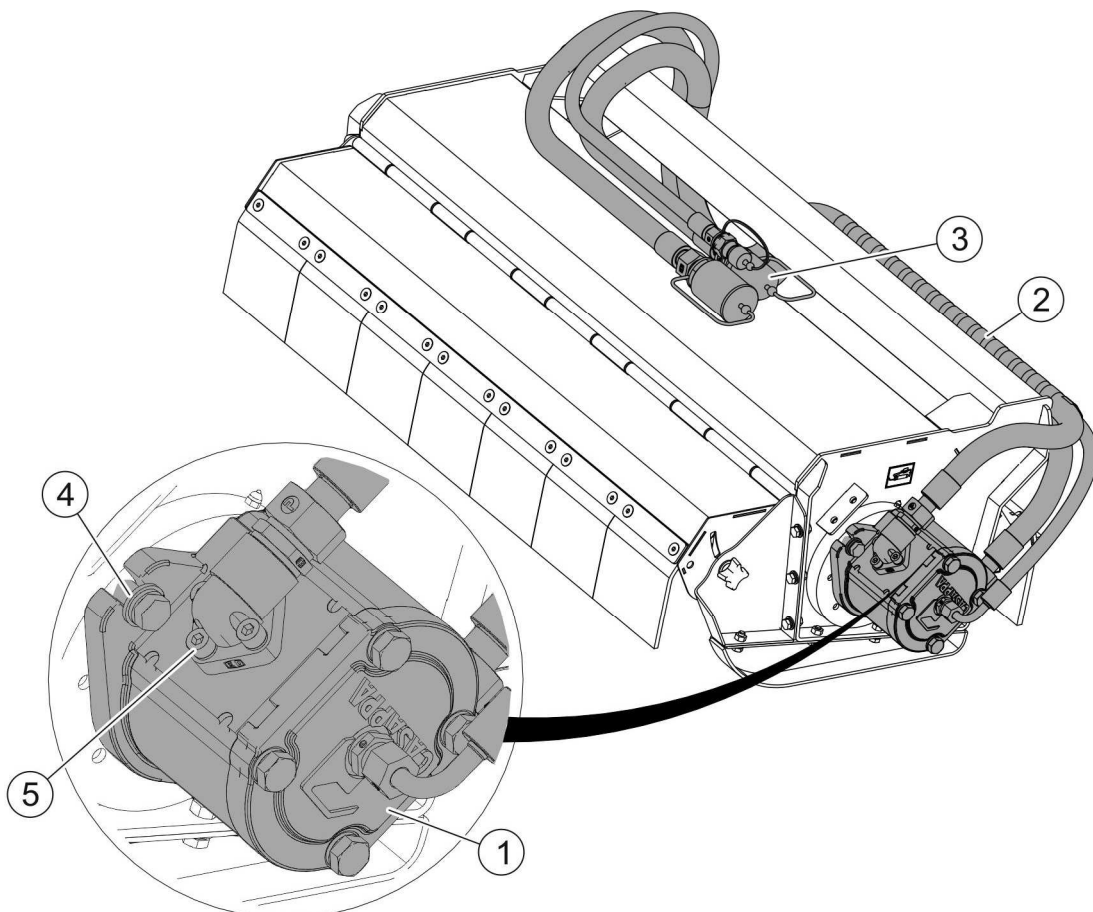

FIGURE 5.5 Inspection of the mowing head's drive system.
(1)- central support beam 60x60; (2)- bolt; (3)- spring washer; (4) – washer; (5)- bolt; (6)- self-locking nut; (7)- washer;
Maintenance of the mowing head's drive system involves periodic inspection of the condition of connections of hydraulic lines (2) (FIGURE 5.5) with hydraulic motor (1) and inspection of the technical condition of hydraulic motor. Attachment of hydraulic motor (1) to the mowing head housing by means of bolts (4) should be also checked.